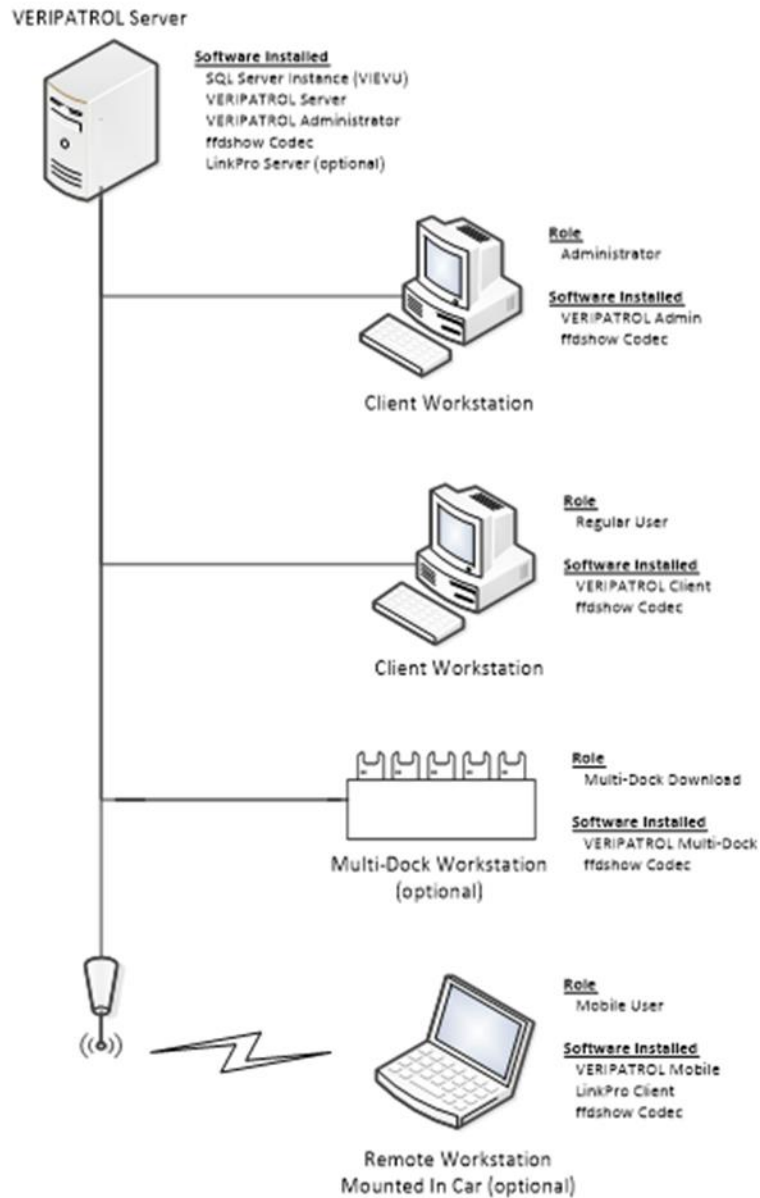

Figure 1
2. Select your camera model from the camera dropdown list under the Support menu (Figure 1).